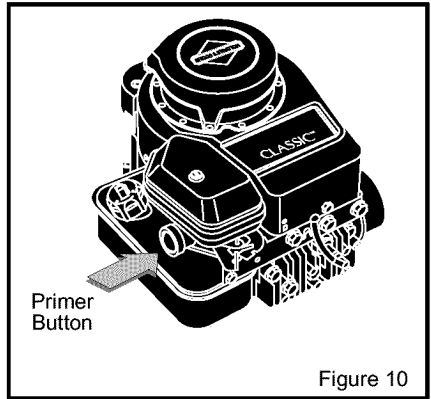

Figure 10
5. When starting a cold engine, push the primer button three times. Wait approximately two seconds between each push. See Figure 10.